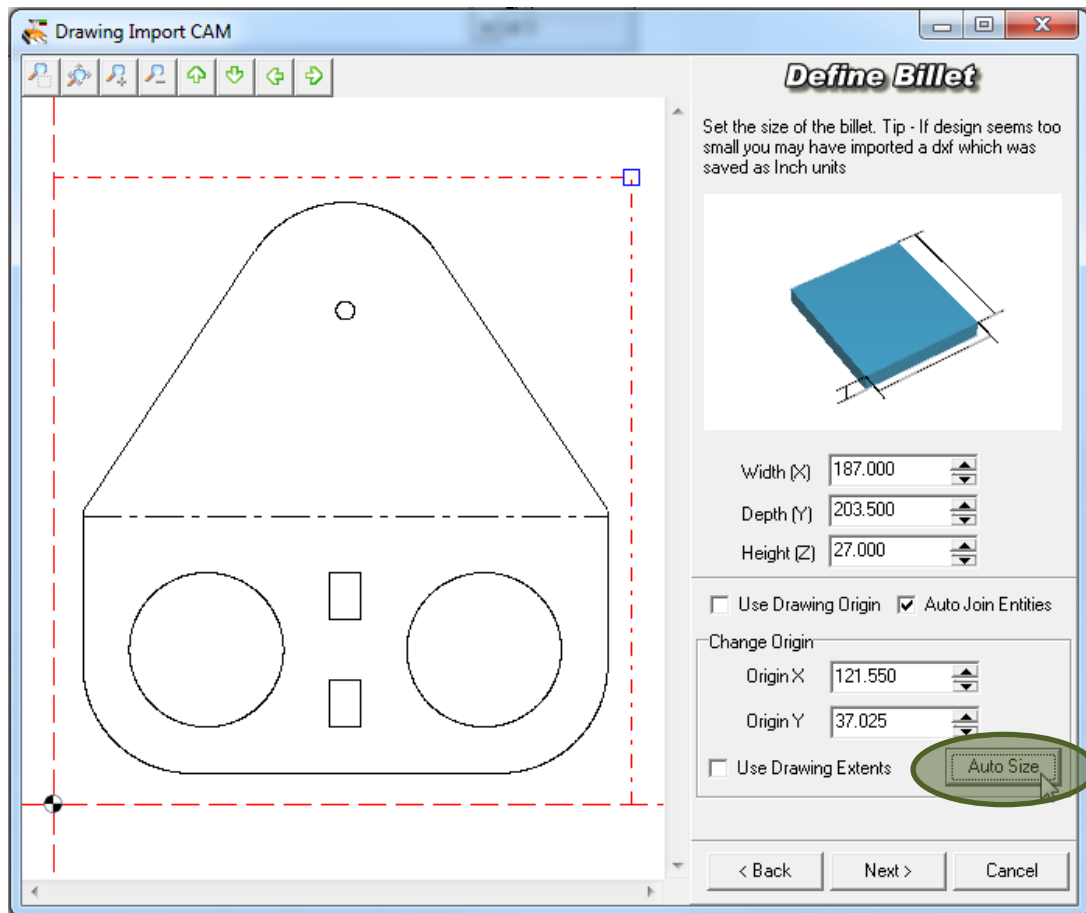

Figure 12
- Click on the Auto Size Button (Figure 12).